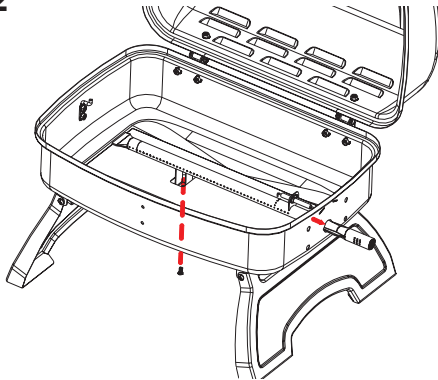

Fig. 2
*Locate:* Burner, (1) M4x10 bolt
*Procedure:* Insert the Burner through the opening on the right side of firebox, then attach to the bottom of the firebox using (1) M4x10 bolt as shown in Fig. 2.